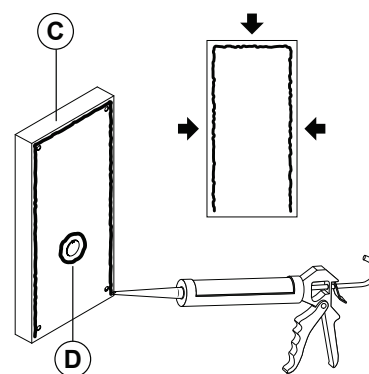

Fig. 53
**In order to prevent water ingress we highly recommend using a silicon sealant between the wall and the back box **(C)**, ON THE LEFT, TOP AND RIGHT SIDES ONLY AND AROUND ALL THE HOLES **(D)**. DON'T USE SILICON SEALANT ON THE BOTTOM SIDE OF THE BACK BOX (**Fig.53**);**